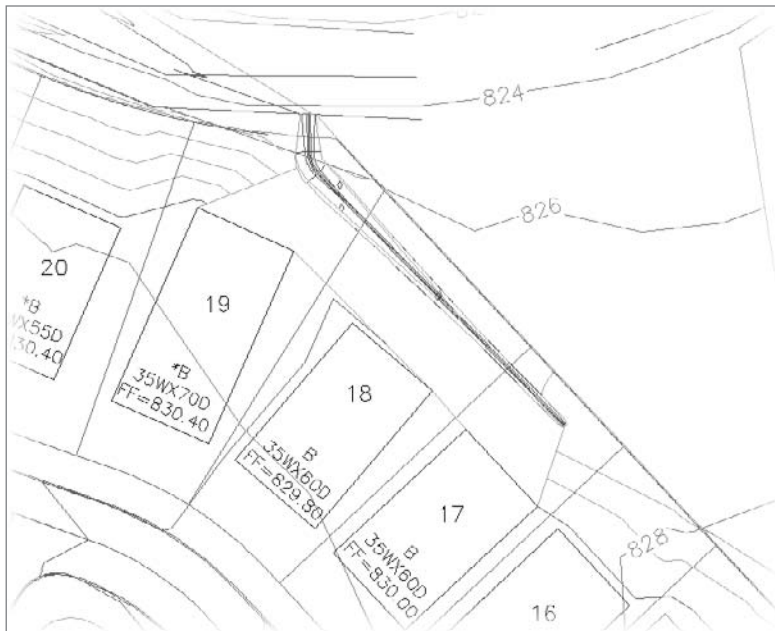

Figure 12.30
8. Select the dashed feature line just inside the property line, and right-click to exit the selection. Your surface should look something like Figure 12.30.